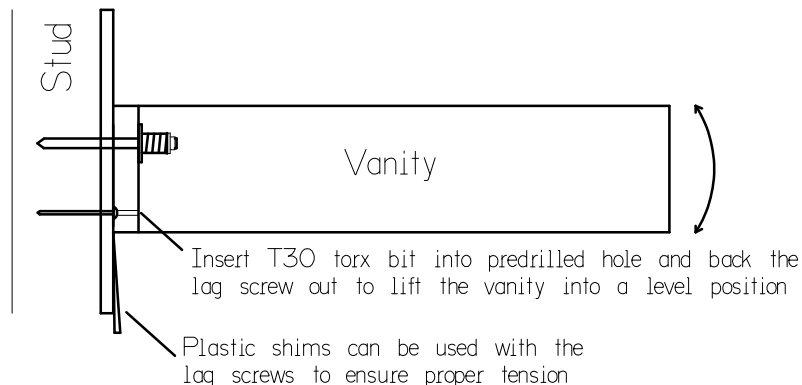

Figure 7
- > Place a level on the top of the vanity. Through the 1/2" pre-drilled hole in the back of the vanity, use a ratchet, 1/4" socket, and the provided T30 torx bit to slowly and evenly back the 3" lag screws out of the wall. This will lift the front of the vanity into a level position. Refer to figure 7 below.